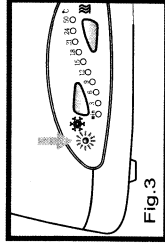

Fig.3
"Cooling" - If the temperature of the aluminium container is higher than the temperature set, the green "Cooling" LED (1) at the left of the control panel will be on. [as Fig.3]